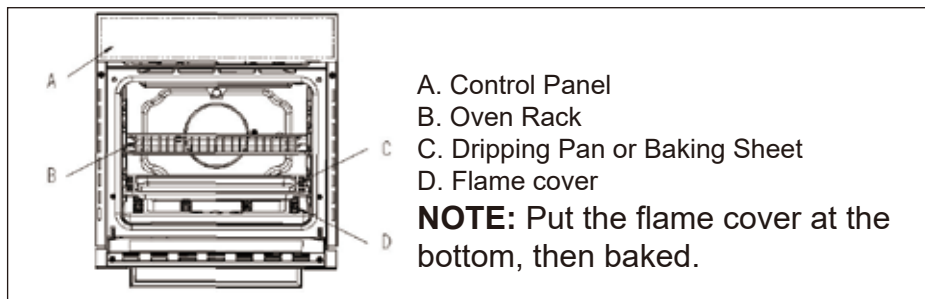

Fig.8
- Select the appropriate level for baking (Fig.8).